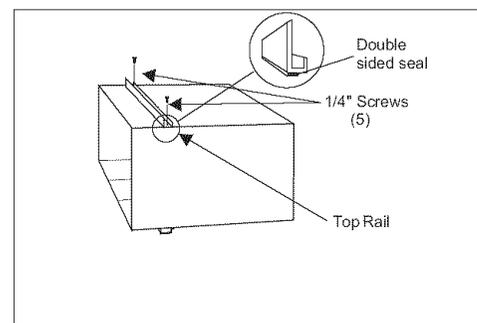

Fig. 3
Stick the double sided seal to the top channel, and then install it to the cabinet as shown in (Fig. 3) using (5) 1/4" screws.